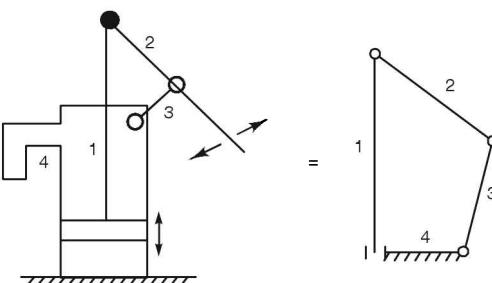

FIGURE 7.25 Hand pump mechanism.
- (e) *Hand pump mechanism:* In this inversion of a slider-crank chain, the cylinder (link 4) is fixed while link 1 (piston) slides in link 4 as shown in Figure 7.25. Link 2 is rotated to move the piston up and down.